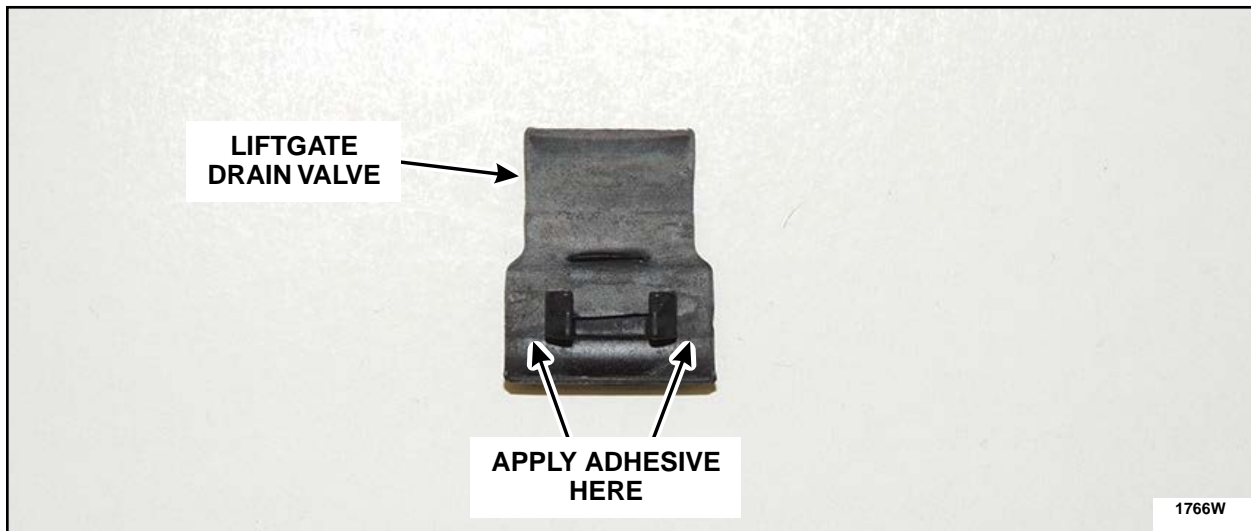

FIGURE 27
3. Apply a drop of Motorcraft® Instant Gel Adhesive TA-19-C or equivalent on each side of the liftgate drain valve attaching clip. Install the liftgate drain valves and hold the part in place for the period of time listed in the instructions on the package to allow the adhesive time to set. See Figure 27.